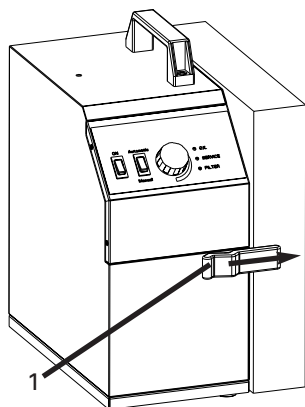

Fig. 3.1
- Switch off the unit with the main switch (14) and open the buckle (1) (Fig. 3.1).